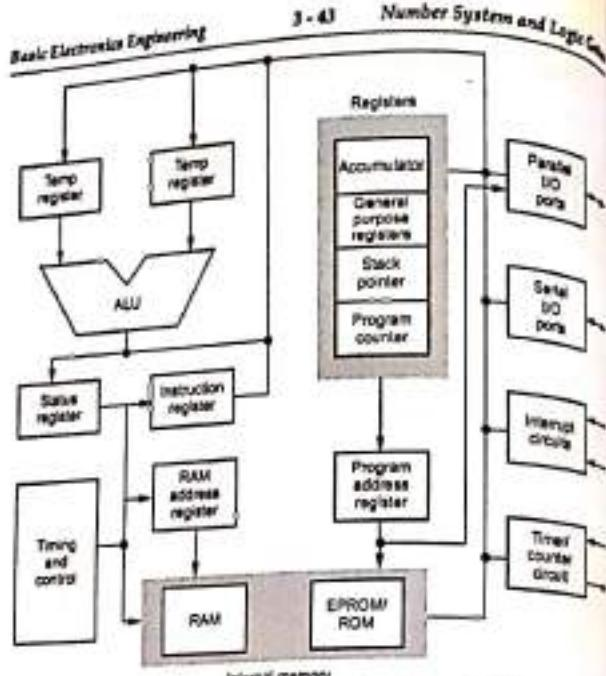

Fig. Q.63.1 Block diagram of microcontroller
- The Fig. Q.63.1 shows the block diagram of a microcontroller. The microcontroller incorporates all the features that are found in microprocessor. However, it has also added features to make a complete microcomputer system on its own. The microcontroller has built-in ROM, RAM, parallel I/O, serial I/O and Timers/counters.